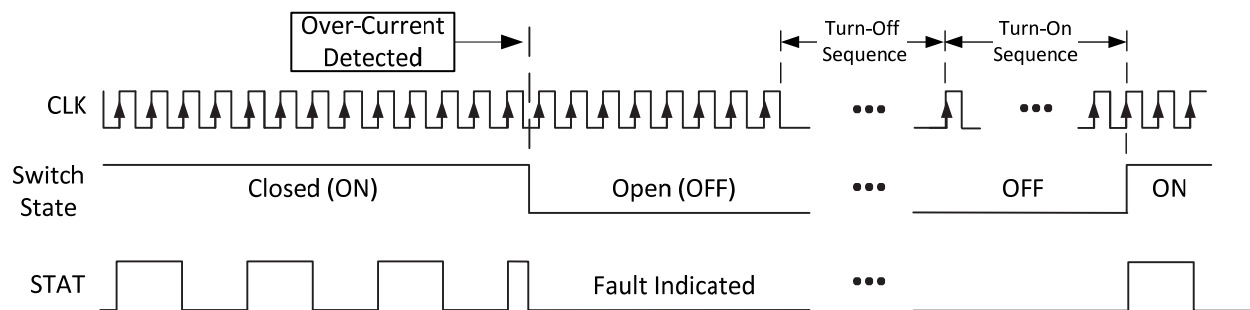

Figure 4: Status Functionality
The status of the switch may be determined by the STAT signaling from the TS13501. When a valid Turn-On Sequence has been received, the switch will close and a signal received at the STAT output will indicate this condition. The STAT pin will continue to switch at a frequency of  $F_{STAT} = F_{CLK} / 4$  as long as a valid CLK input is driven to the device and the switch is in the closed (ON) state. The Status Functionality is shown in Figure 4.
The load current is continually evaluated when the switch is in the "ON" state. In the event that the load current exceeds the threshold limits ( $I_{OUT_{OC}}$  or  $I_{OUT_{PK}}$ ), the switch will be opened and the state is indicated by the STAT pin, which will cease switching as shown in Figure 4.